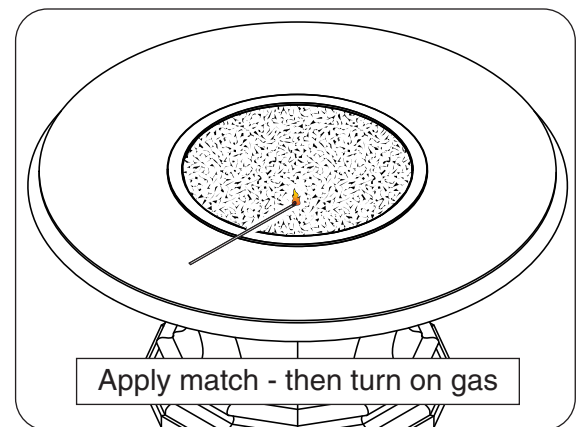

Fig. 49-1
3. Lay a lighted match on the surface of the decorative media near the burner (**do not hold the match in your hand**) (Fig. 49-1).